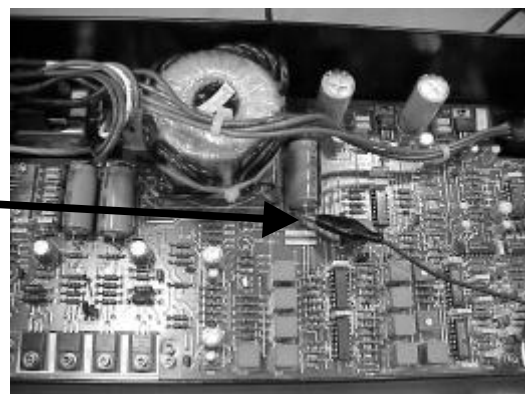

Fig 1
WARNING – ENSURE THIS CONNECTION IS CORRECT AS SHOWN IN FIG 1 BELOW – DO NOT CONNECT TO ANY OTHER COMPONENT OR TO THE POSITIVE LEG OF C3. ENSURE THAT THE GROUND CLIP DOES NOT SHORT TO ANY OTHER PART OF THE CIRCUIT
- a. Ground the meter at the negative leg of C3 (the same place that you grounded the oscilloscope as shown in Fig 1 above.)